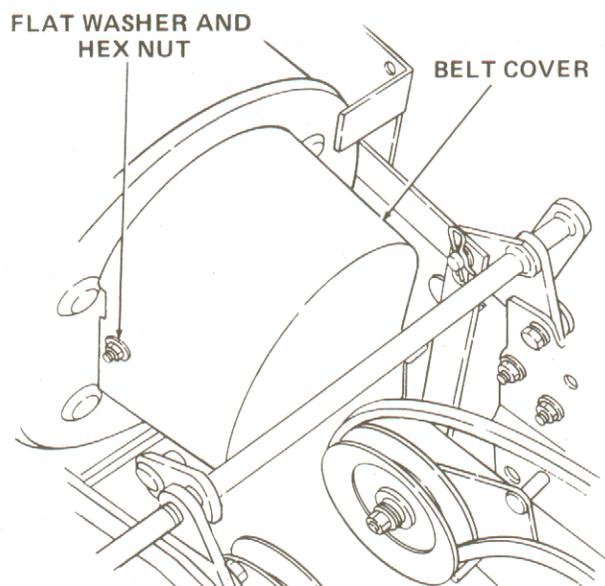

Figure 16
8. Remove belt cover from back of fan blower housing by removing two hex nuts and flat washers. Refer to Figure 16.